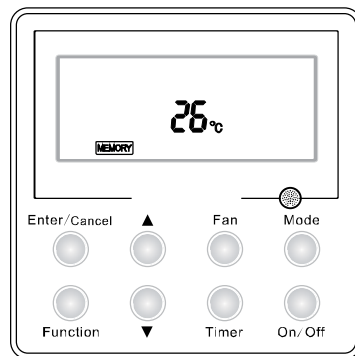
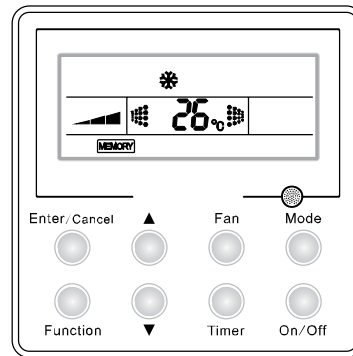

Fig.5 “Off” Status
Fig.6 “On” Status
- ◆ Fig. 5 is the “Off” status when the unit is powered on. Fig.6 show the “On” status when the unit is powered on.